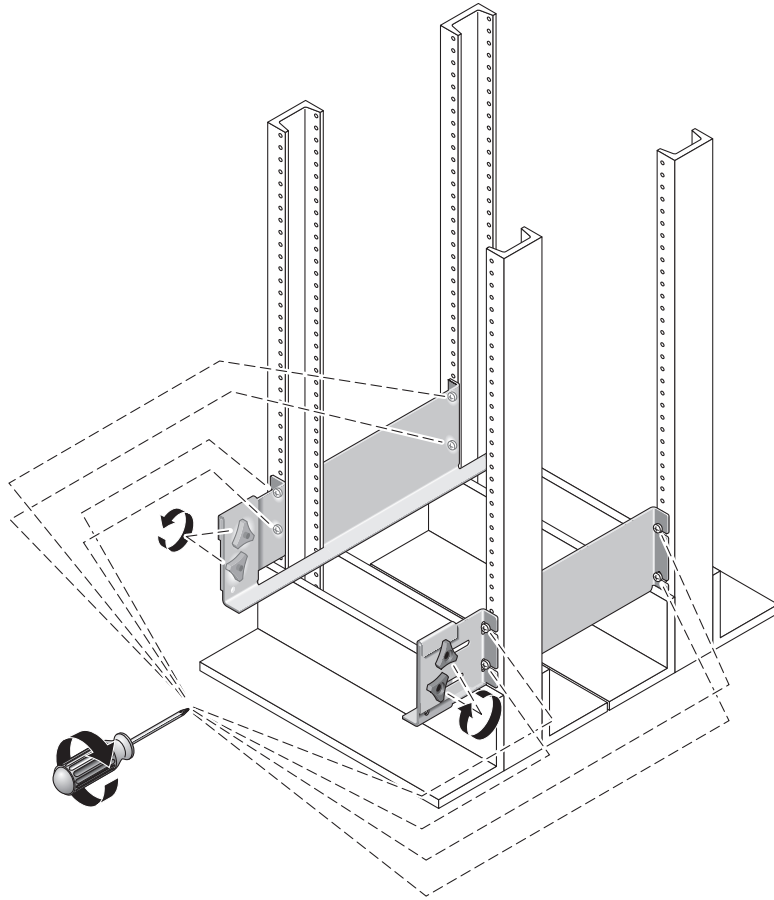

FIGURE 2-25 Tightening the Screws of the Left and Right Rails
4. Tighten the eight screws (four per side) at the front and back of both mounting rails to secure each rail to its post (FIGURE 2-25).